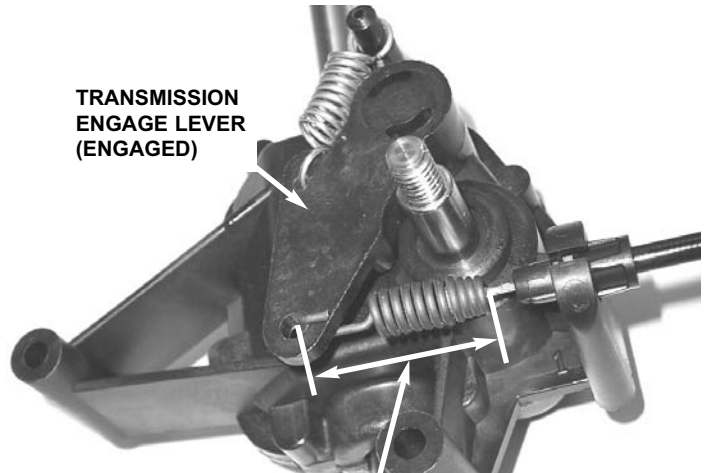

FIGURE 4.5a
3. Engage lever, and roll mower back and forth several times to ensure clutch dogs are fully engaged. With lever engaged, measure length of extended spring. Overall spring length should increase by 0.090 – 0.110" (3/32 – 7/64"). See Figure 4.5a.